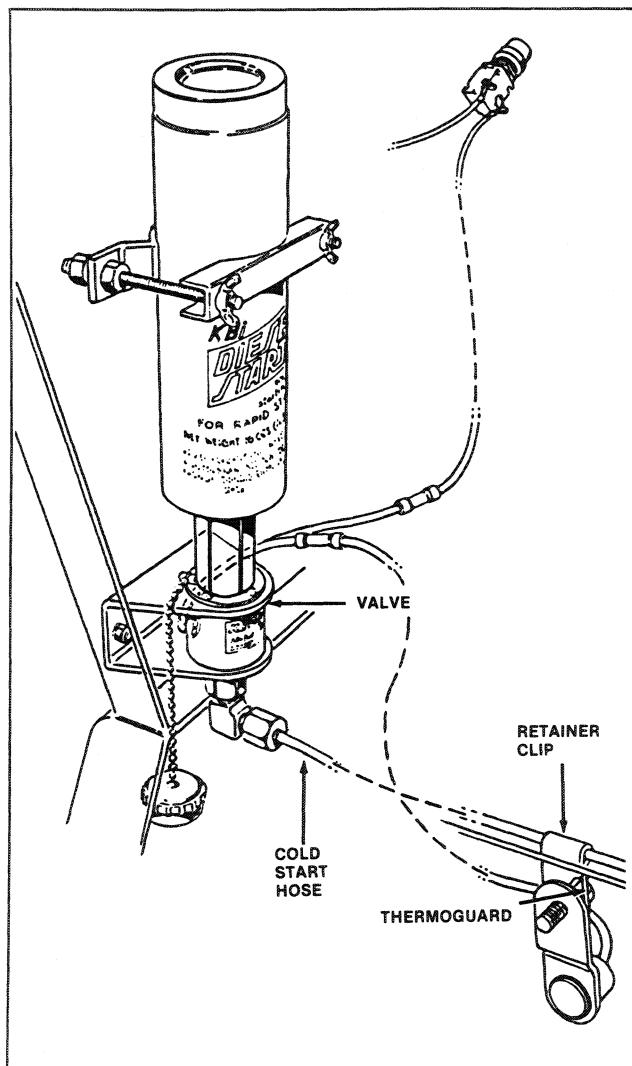

FIGURE 2-4: Cold Start
17. Disconnect thermoguard from engine harness (Figure 2-4).